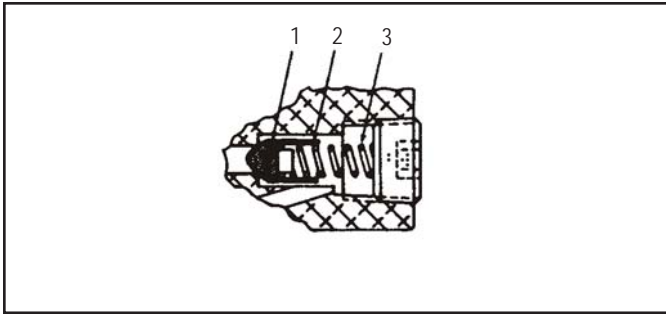
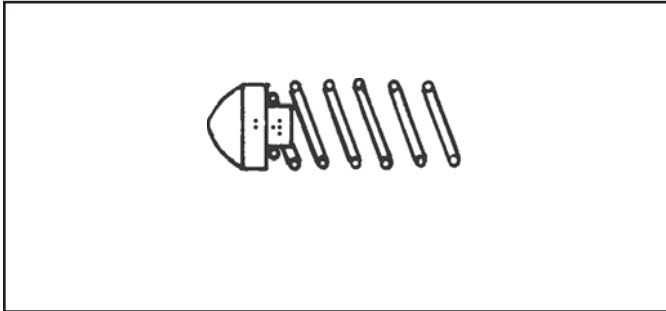

FIGURE 7 - OLD STYLE
FIGURE 8 - NEW STYLE
Early revision of the SR-2™ valve contained single check valves for the service and spring brake reservoirs respectively consisting of a rubber valve, spring and spring guide per Figure 7. Since late 1974 the check valves have consisted of a sub-assembly pc. no. 288252, which includes the rubber valve and a revised spring (Figure 8). If the SR-2™ valve is being repaired with Maintenance Kit
1. Insert the rubber check valve (1) into the spring guides (2). See Fig. 7.
2. Position the check valve springs (3) into the spring guides and over the end of the rubber check valve (1) with a twisting motion.
3. Drop the check valve and guide assemblies into their respective bores in the valve body and install the two 3/8" socket head pipe plugs (18) and torque from 140 to 170 inch pounds.
REASSEMBLY OF CURRENT DESIGN CHECK VALVES (Figure 8)